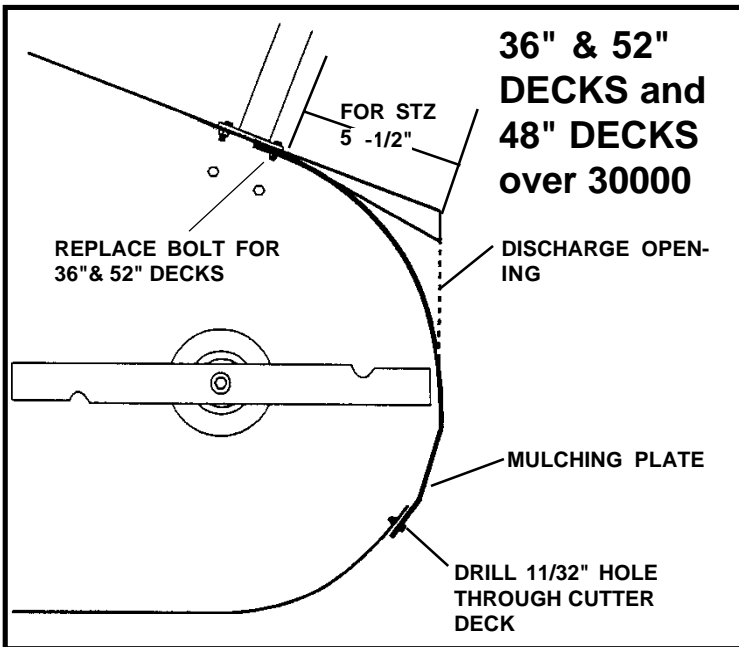

Figure 5
2. **On 36", 48" & 52" decks:** Remove the lower bolt closest to the discharge chute securing the right hand caster support to the side of the cutter deck. (See Figure 5, Page 6).
On 52" SMTZ decks: Drill an 11/32" hole 8-1/2" from the discharge side of the deck and 2" down from the top of the deck. (See Figure 5, Page 6.)
On 42" & 48" decks: Remove both lower bolts securing the right hand caster support to the side of the cutter deck. Reinstall the bolt closest to the discharge chute so that the bolt head is on the inside of the deck and the threads face out. Secure with the hardware that you have just removed. (See Figure 5 & 6, Page 6).